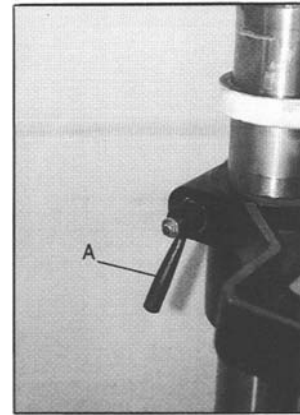

Figure 3
1. Unlock the table by loosening the handle (A, Figure 3)